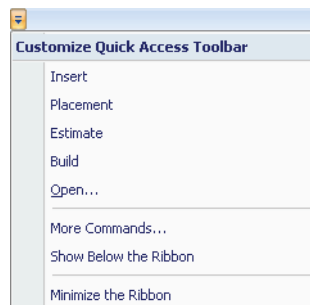

Figure 5-80: *Customize Quick Access Toolbar* menu
- From the *Customize Quick Access Toolbar* menu (see figure 5-80 on page 57), select **More Commands**.